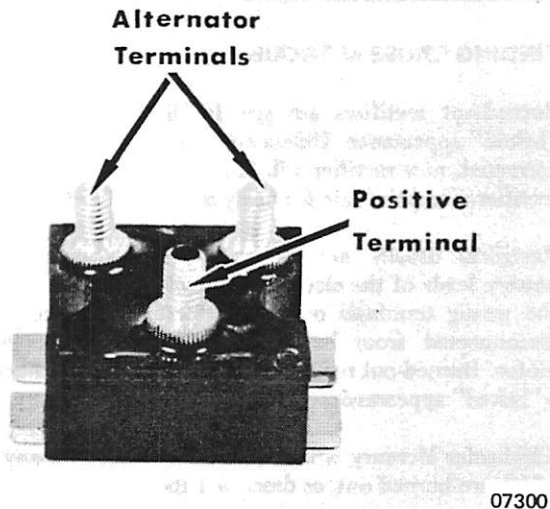

Figure 5. Merc 402 and 650 (3-Cyl.) Type Rectifier
**NOTE:** Refer to Figure 5 for rectifier terminal identification.